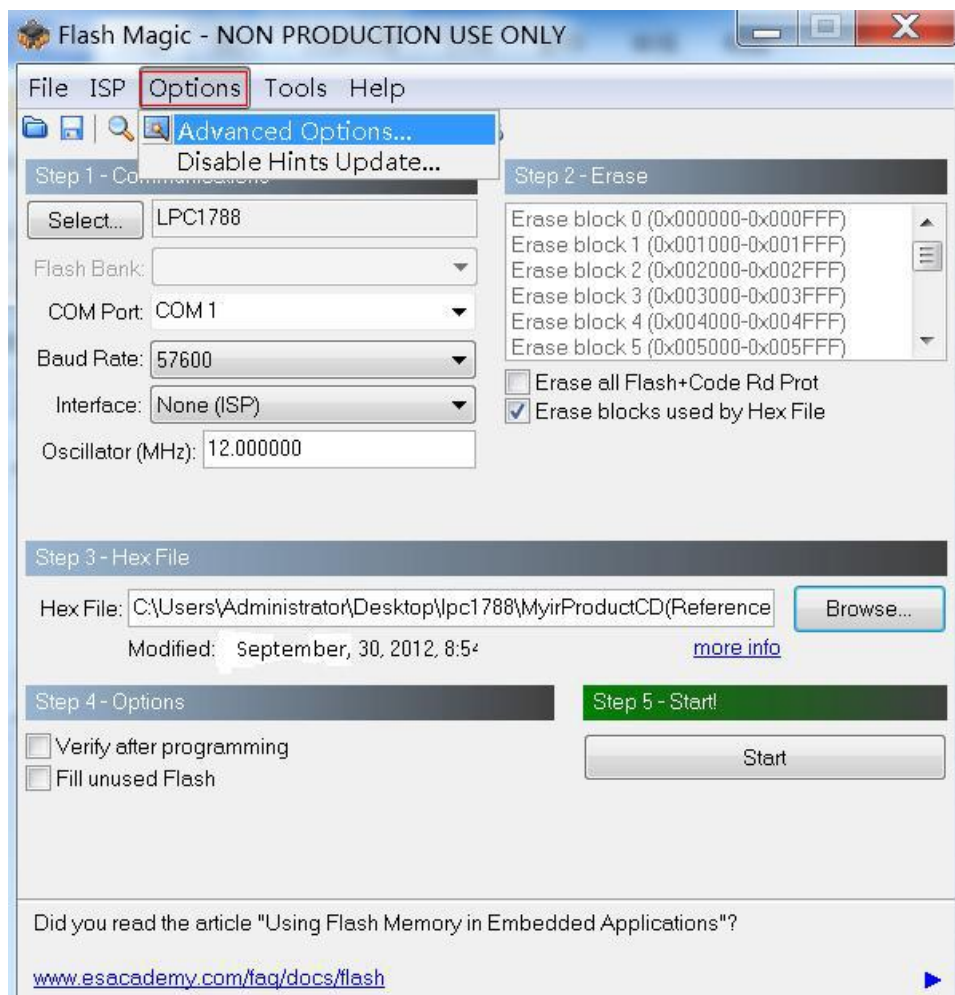

Figure3-13
(1) Open FLASH magic and click“Options”, then choose “Advanced Options”. Refer to figure 3-13: